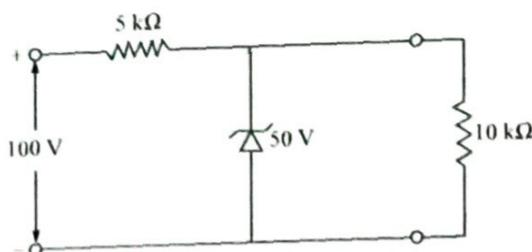

Figure 2.64
**PROBLEM 2.30:** Find the voltage drop across 5 kΩ resistance shown in Fig. 2.64.